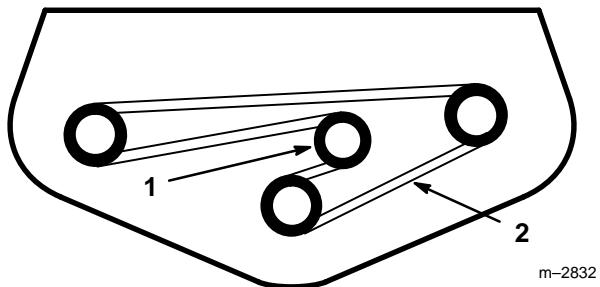

Figure 29
3. Push on idler to release tension and remove the belt from the pulleys (Fig. 29).
1. Install the new belt around the blade pulleys and the idler pulley (Fig. 29).